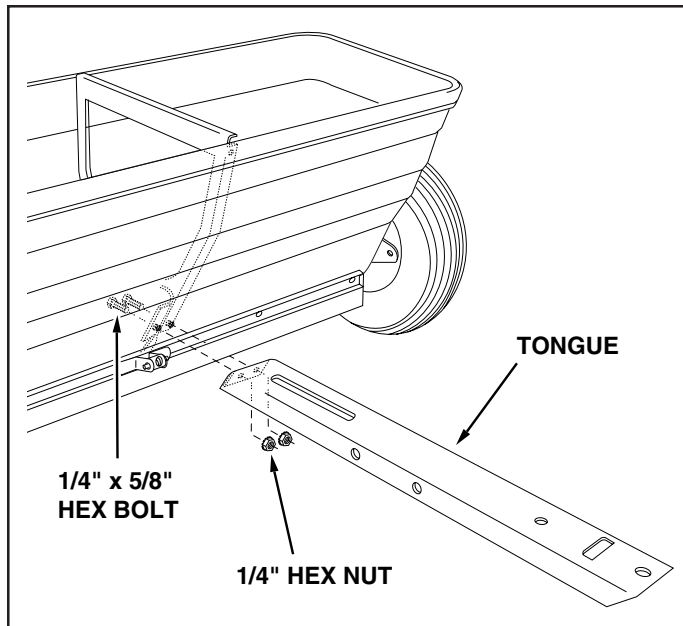

FIGURE 1
2. Assemble the tongue to the hopper as shown in figure 1 using two 1/4" x 5/8" hex bolts and 1/4" hex nuts. **Do not tighten yet.**